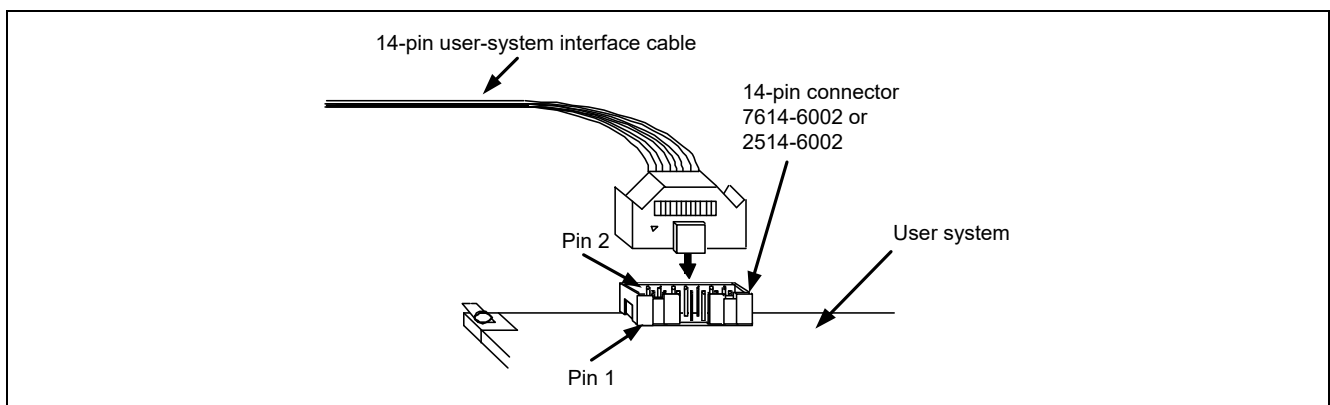
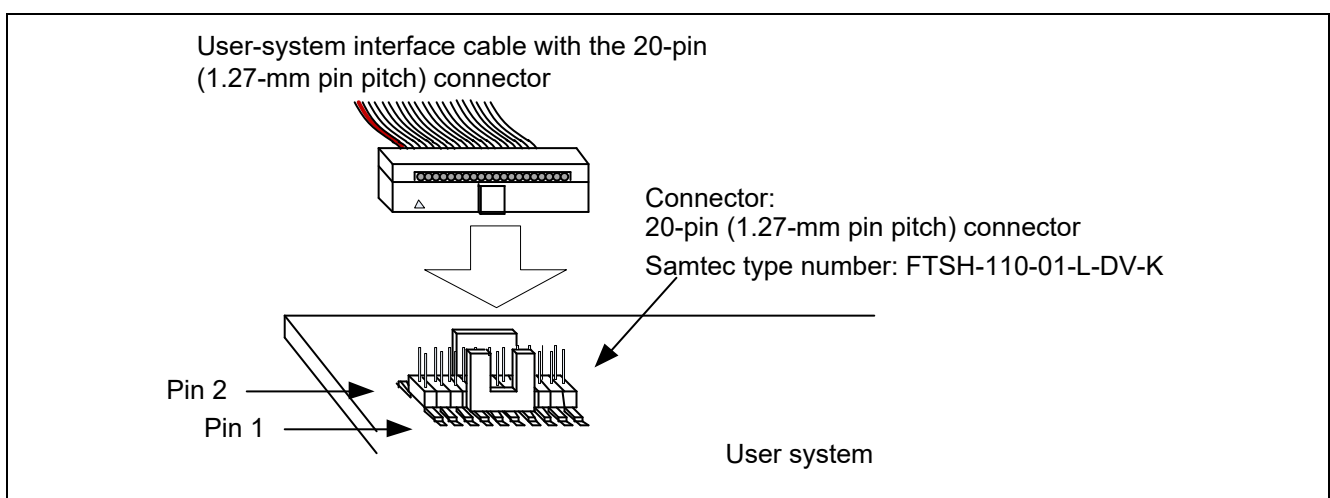

Figure 2.3 Connecting the User-System Interface Cable to the 14-Pin Connector when the E2 Lite is to be Used
Figure 2.4 Connecting the User-System Interface Cable to the 20-Pin Connector when the E2 Lite is to be Used
(3) For the pin assignments of the connector, refer to the additional document for user's manual for the E1/E20 emulator or E2 emulator Lite which corresponds to the target MCU.
(4) Connect one end of the user-system interface cable to the E2 Lite and the other end to the connector on the user system as shown in Figure 2.3 and Figure 2.4.